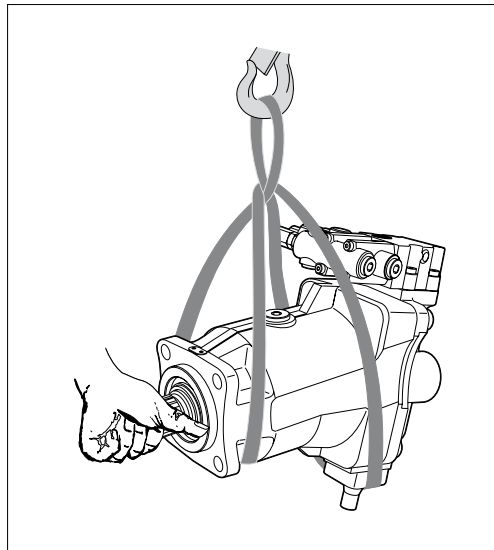

Fig. 6: Transport with lifting strap
- Place the lifting strap around the axial piston unit in such a way that it passes over neither the attachment parts (e.g. valves) nor such that the axial piston unit is hung from attachment parts (see Fig. 6).